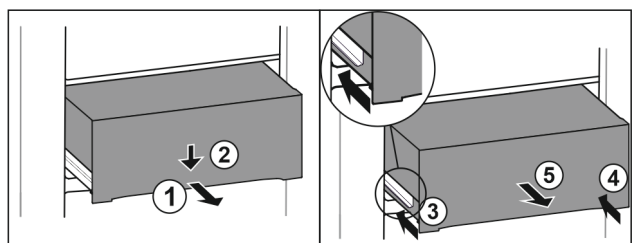

Fig. 100
- ▶ Pull out the drawer halfway. Fig. 100 (1)
- ▶ Press down the drawer on the front. Fig. 100 (2)
- ▶ Push in the left rail approximately 2 cm (13/16 in). Fig. 100 (3)
- ▶ Push in the right rail approximately 2 cm (13/16 in). Fig. 100 (4)
- ▶ Remove drawer to the front. Fig. 100 (5)